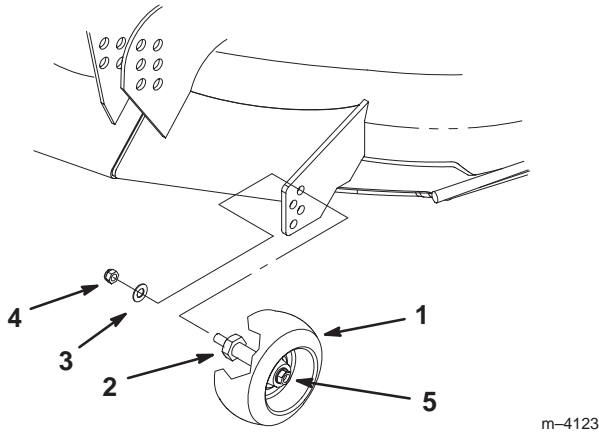

Figure 11
1. After adjusting the height-of-cut, remove the nut and the washer while holding the stud with a wrench (Fig. 11).
Note: Do not remove the wheel nut and washer (Fig. 11).
2. Select a hole position so that the gage wheel is 3/8 inch (9.5 mm) off the ground for the desired height-of-cut (Fig. 11).
3. Install the stud nut and the washer (Fig. 11).